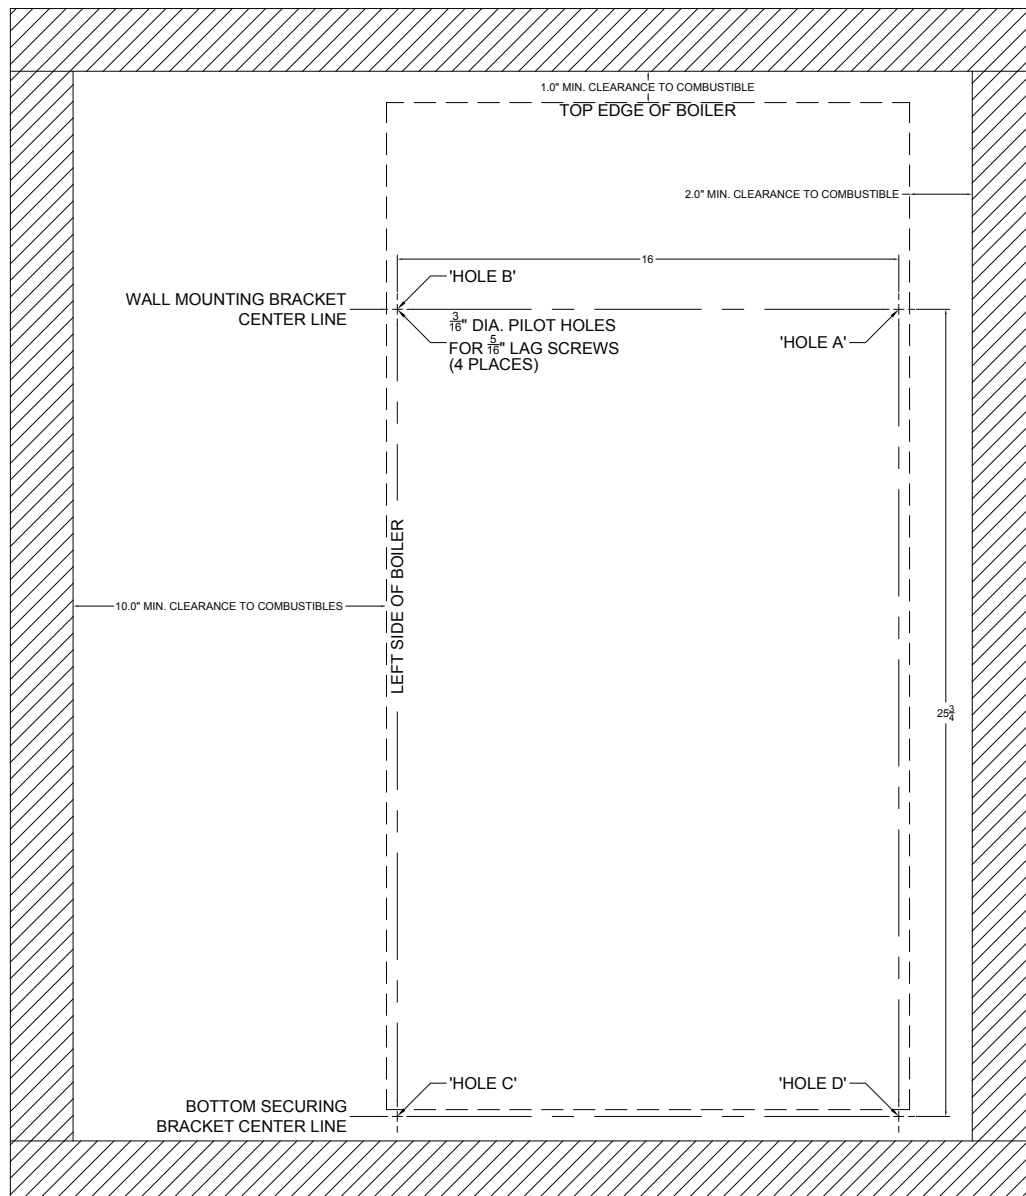

Figure 2C: Wall Mounting Hole Location / Layout
- f. Once a suitable location has been selected for the boiler, and any needed modifications have been made to the wall, use Figure 2C to locate and layout holes "A" and "B". These holes must be positioned on mounting stud centers if the boiler is installed on a framed wall. Make sure that the horizontal centerline of these holes is level. Holes "C" and "D" may also be drilled at this time, or after the boiler is hung on the wall. If the 5/16 x 2 in. lag screws are used, drill 3/16 in. pilot holes.